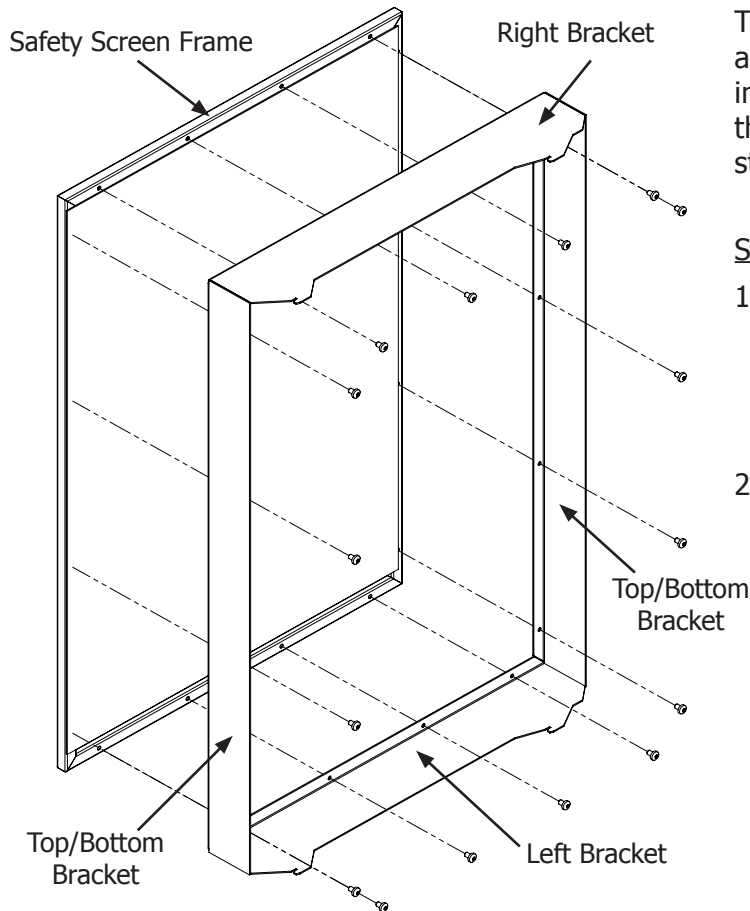

Figure 42: Installing Safety Screen Mounts.
1. Attach the left, right, top/bottom brackets onto the safety screen using a T20 screwdriver and the supplied sixteen (16) #8 T20 screws (see Figure 42). Do not over-tighten the screws, doing so could cause them to strip out of the screen frame.